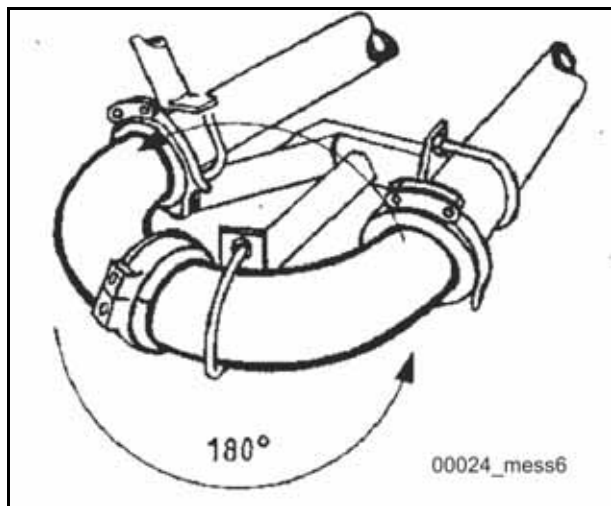

Fig. 341
- Turn pumping pipes and elbows 180° from the inlet side to the outlet side after 50 % of their expected service life (Fig. 341).